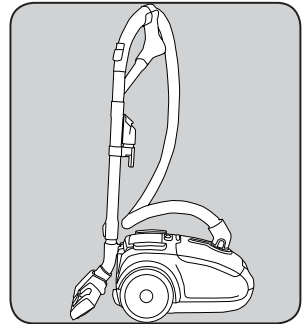

Fig. 2
1. The tab on the back of the rug/floor tool conveniently stores on the back of the vacuum when it is attached to the end of the wand (Fig. 2).